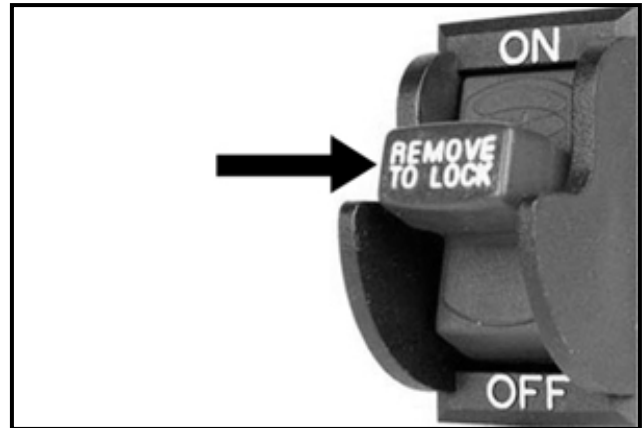

Figure-7 Switch disabling key
7. Remove the switch disabling key shown in figure-7.
8. Remove the switch disabling key shown in figure-7.